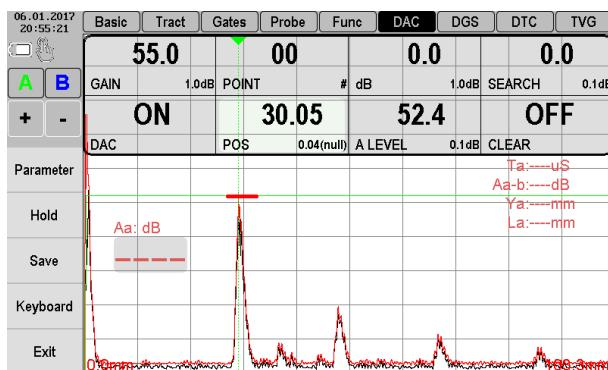

Figure 2.53 – Setting the position of the reference DAC point
8. Select the point number (00 by fault) for the first reflected signal and set its position («POS») on the signal peak on A-scan (Figure. 2.53).